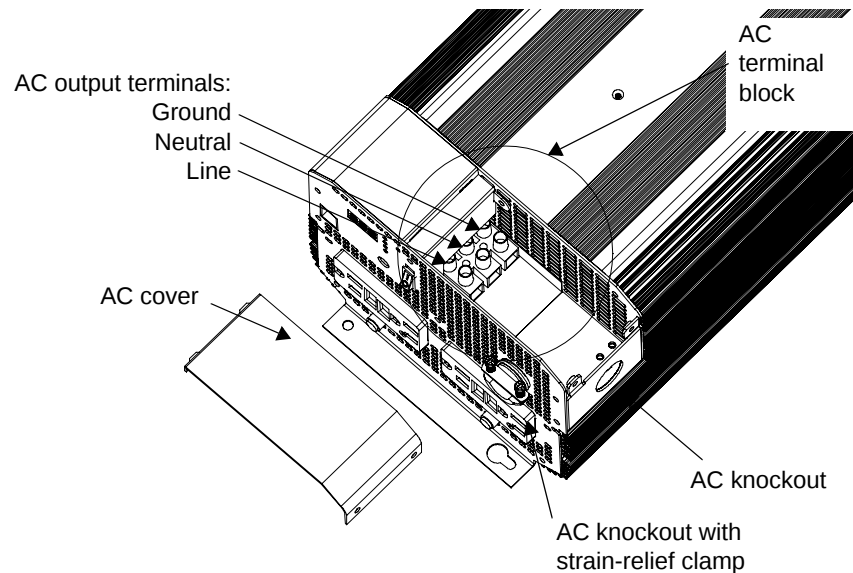

Figure 2-7 AC Wiring Compartment
6. Locate the terminal block (see Figure 2-7).